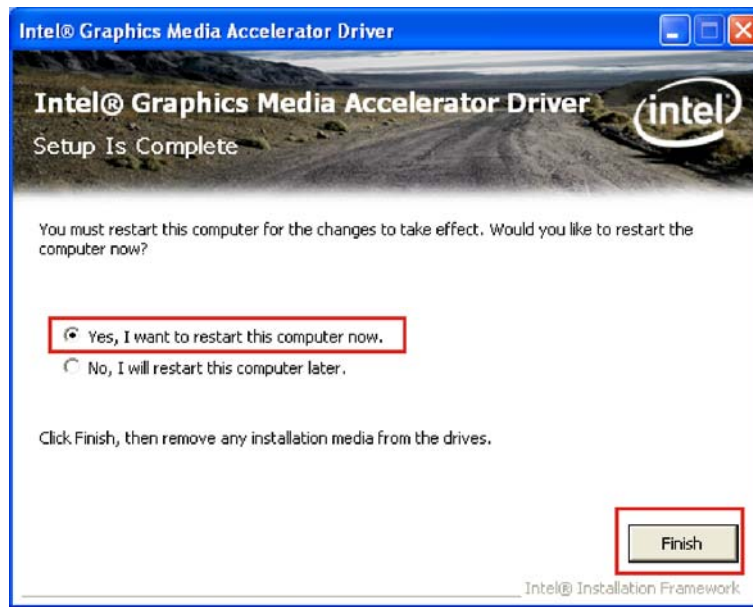

Figure 7-12: VGA Driver Installation Finish Screen
Step 31: Select “Yes, I want to restart the computer now” and click **FINISH**. See Figure 7-12.